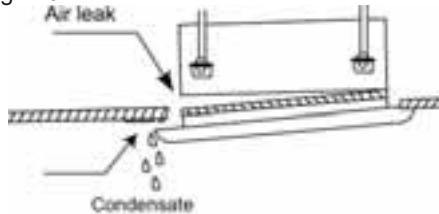

Fig. 4.32
- (2). Panel must be securely fastened or condensate could leak from the unit as shown in Fig. 4.32.